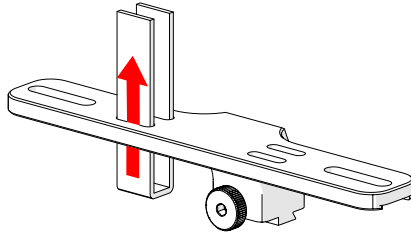

Fig. 273 - Insert velcro straps
1. Slide the velcro strap through the bracket's holes (*Fig. 273*).